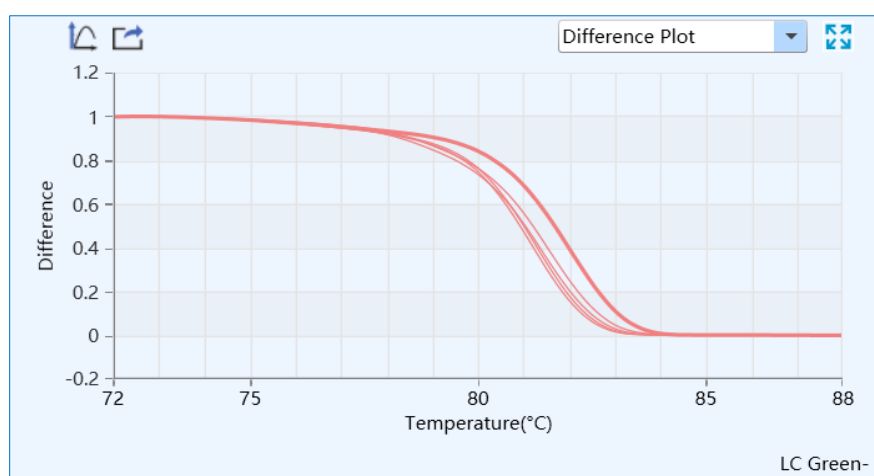

Figure D-14.3. HRM Analysis Interface - Difference Plot Functional Module
- III. **Difference Plot:** display the curve after subtracting the baseline group curve, or after normalization and optionally, or after temperature shift. The appearance of the curve on **Difference Plot** functional module depends on the selected baseline group, as shown in figure D-14.3. For more details, please refer to D-3.3.4.4 High Resolution Melting- High Resolution Melting Analysis Setting.